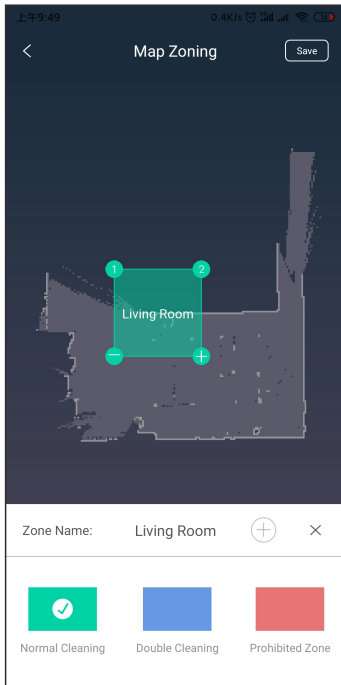

Fig.1
1. Select "Map Zoning", create a new area and name it, move the rectangle frame to any position(fig.1), select the area cleaning type, Normal cleaning (cleaning once), Double cleaning (cleaning twice), Prohibited cleaning (set restricted area), and then click Save, the area setting is successful.